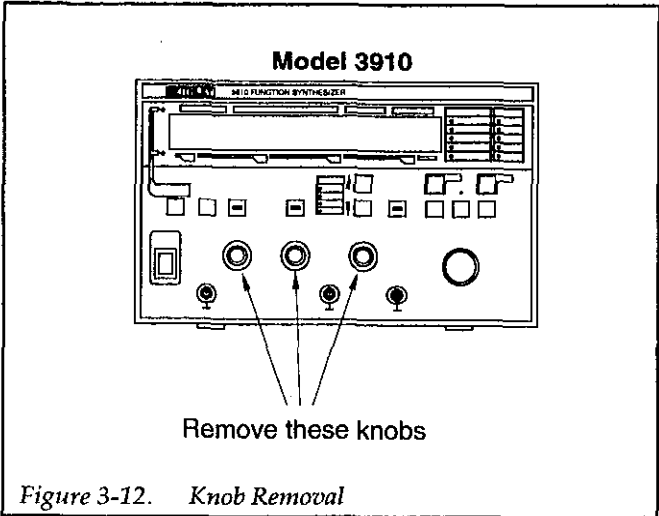

Figure 3-12. Knob Removal
1. Remove the three knobs shown in Figure 3-12 by loosening the set screws and then removing the knobs.